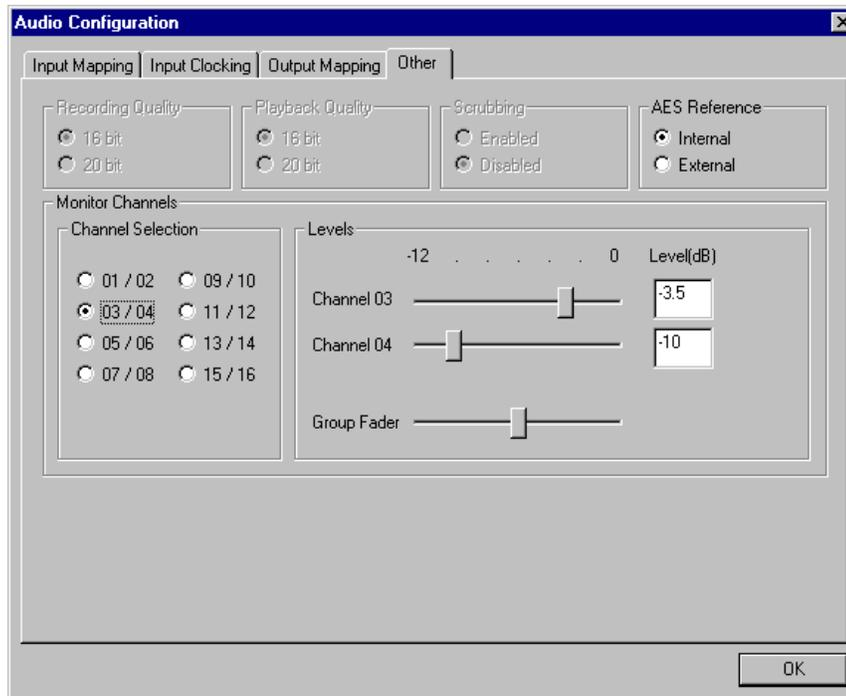

Figure 50. Audio Configuration dialog box, Other tab
1. Choose **Options | Audio Configuration**. The Audio Configuration dialog box appears (Figure 50).